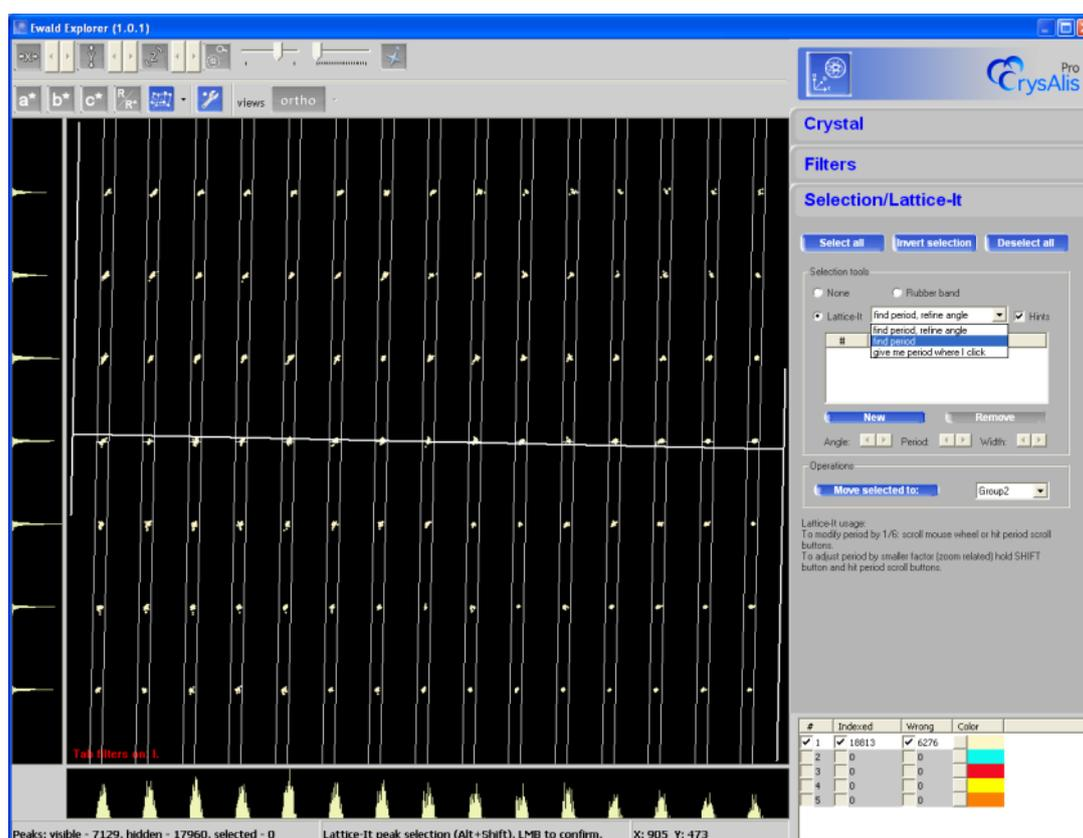

Figure 23: Example of Lattice-It function in Ewald Explorer
- **Lattice-It** – This option allows the user to select lattice peaks which appear in evenly spaced parallel lines (Figure 23).